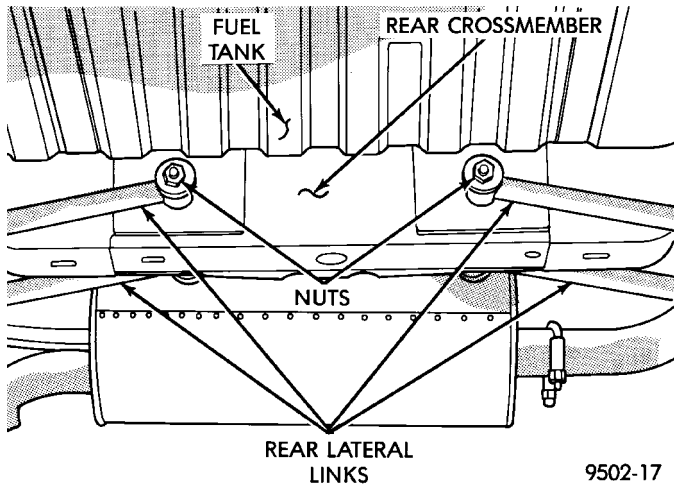

Fig. 4 Rear Lateral Link To Crossmember Attaching Bolts
(1) Prepare vehicle as described in the Pre-Alignment Vehicle Inspection procedure.
(2) Center steering wheel and lock in place using a steering wheel clamp.
(3) When performing the Toe setting procedure, set rear wheel Toe to preferred specification first, then set front wheel Toe to the preferred specification.
(4) Loosen nuts on attaching bolts, for the left and right rear lateral links to rear crossmember (Fig. 4).